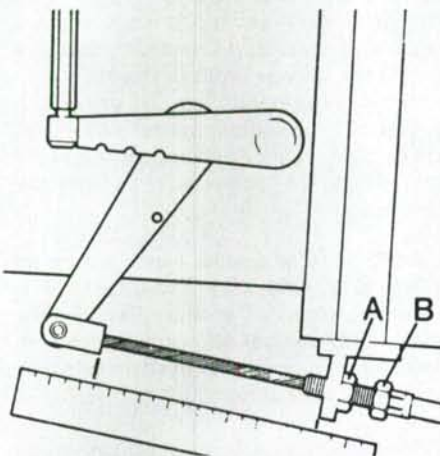

Fig. 160—Adjust pto clutch by turning cable adjuster (B) until cross-shaft lever free movement is 3-5 mm ($\frac{1}{8}$ - $\frac{1}{4}$ inch).
To adjust pto clutch linkage, place pto clutch hand lever in engaged position. Loosen locknut (A—Fig. 160) and turn cable adjuster (B) to provide 3-5 mm ($\frac{1}{8}$ - $\frac{1}{4}$ inch) free movement at end of pto clutch cross-shaft lever.